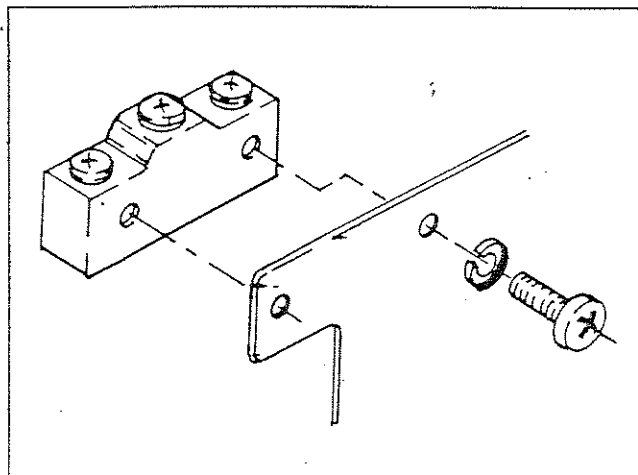

Figure 13. Auxiliary Contacts Removal
See Figure 13 on next page. Remove two (2) screws that retain the first auxiliary contacts. Remove the auxiliary contacts. The second auxiliary contacts can be removed in the same manner.